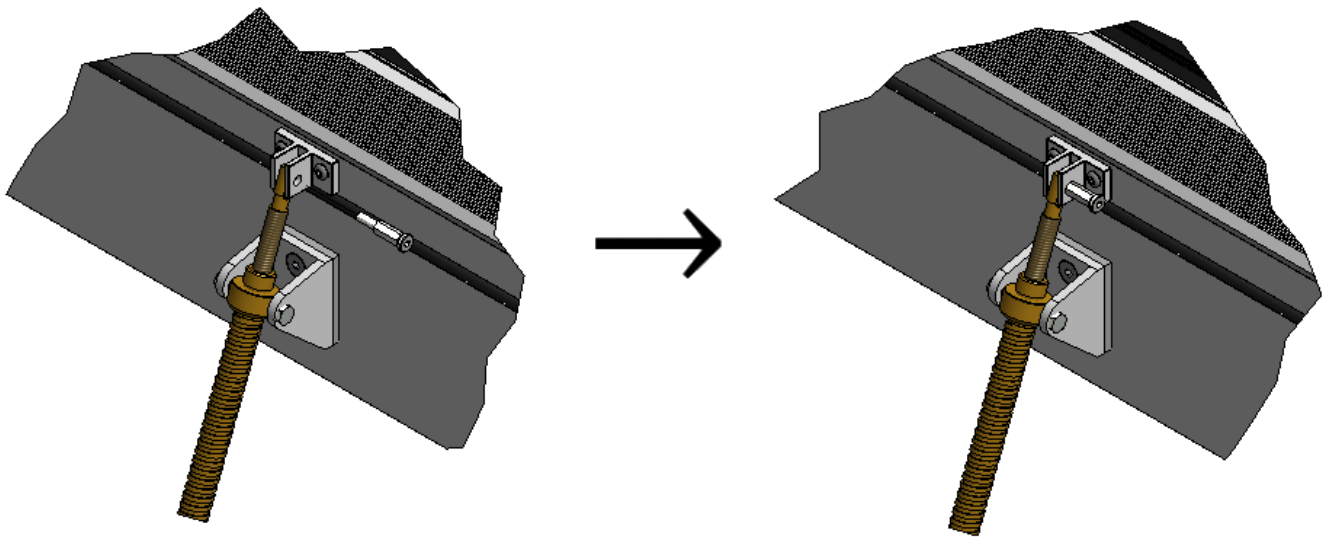

Fig. 14g – Spindle attached to lid bracket
- Connect the spindle to the lid bracket using the supplied fixings (fig. 14g)